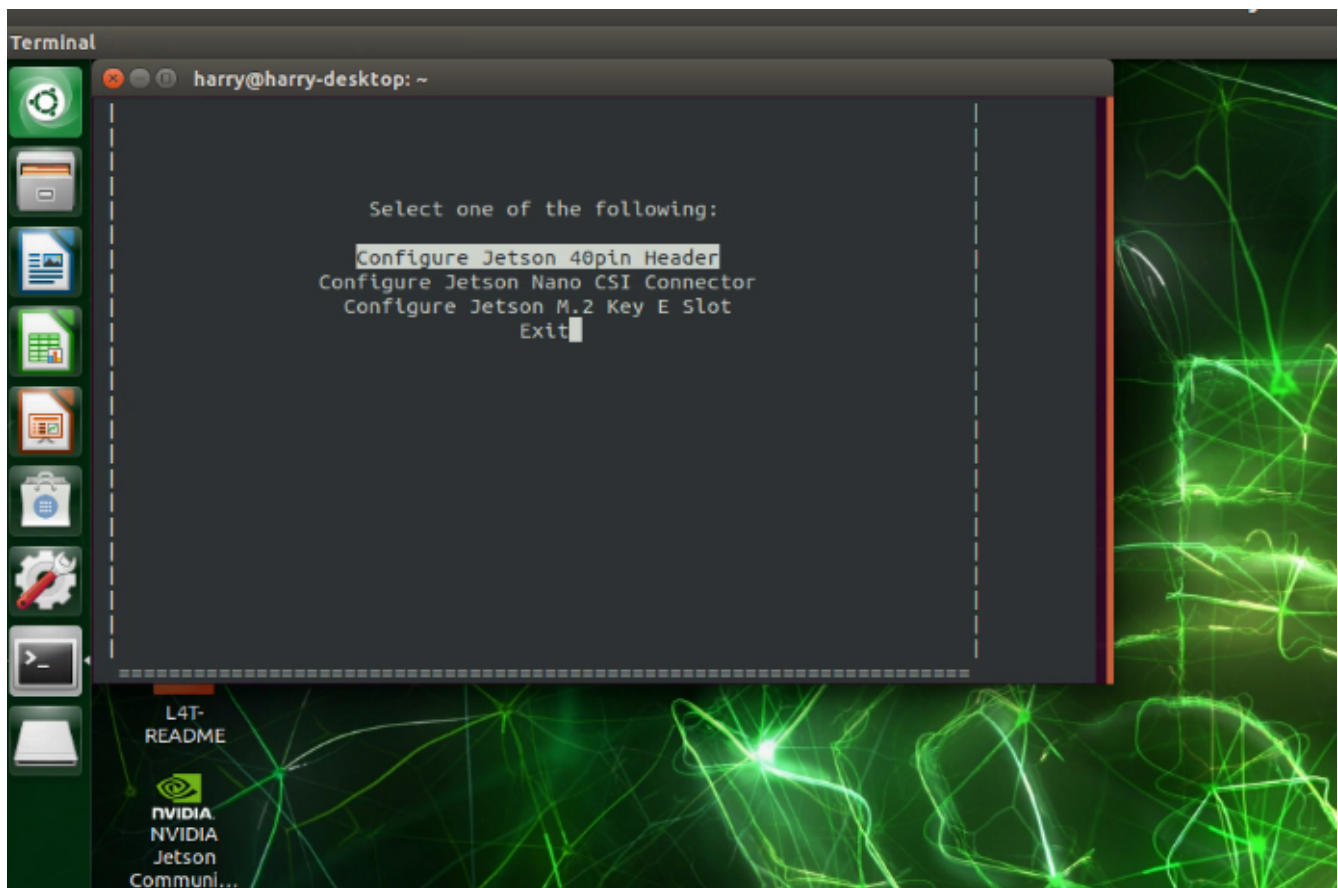

Figure 7.
- (6.1) GPIO pin 79 and pin 78 as output pin and input pin respectively and take photo, similar to Figure 7;